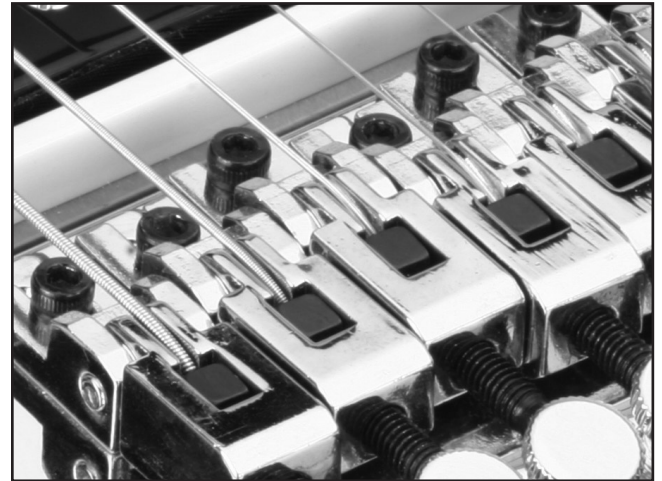

Figure 35. Strings locked into lock box.
2. Insert the strings between the lock block and the front edge of the lock box as shown in **Figure 35**.